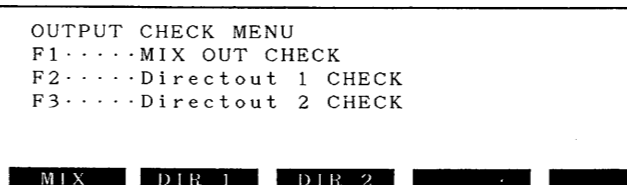

Fig. 4
- [F3] (OUTPUT CHECK 1 (JACK)) Fig. 4